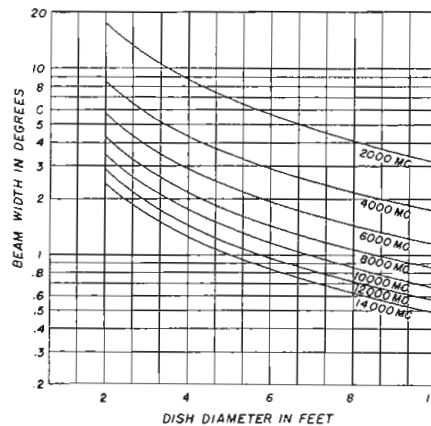

Fig. 3: Curves for half power beam width vs. reflector diameter at different frequencies
a half power beam width of 2.46°. Practically, the figure is subject to variations and production antennas have a half-power beam width of approximately 3°. Fig. 3 presents equation (5) both in terms of wavelength (frequency) and reflector diameters.